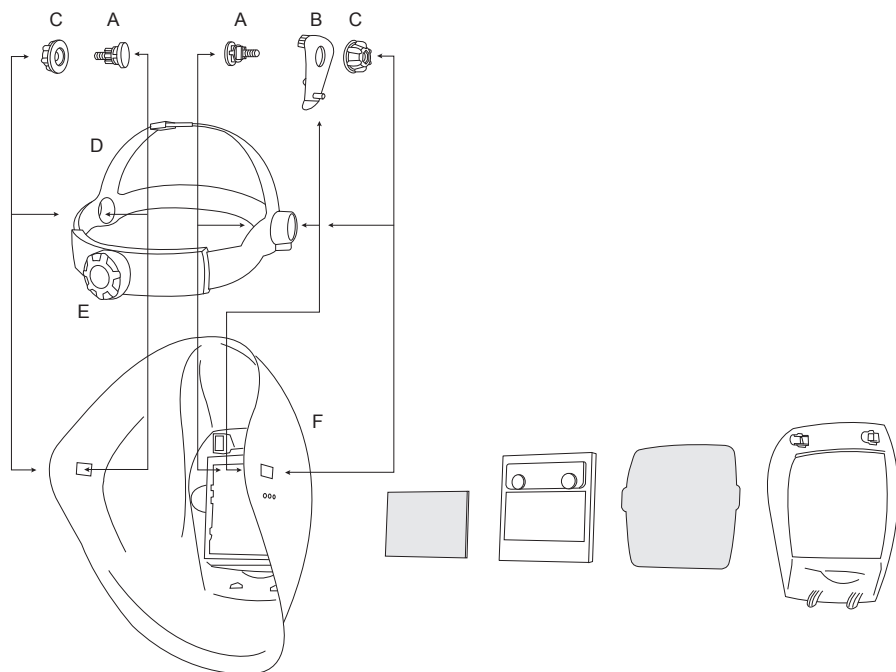

Figure 1
1. Insert screws (A) through the openings in the headgear (D).
2. Insert the headgear (D) into the helmet shell (F) as shown in figure 1 and push the screws (A) through the rectangular openings in the helmet shell.
3. Put the tilt adjustment (B) on the right side between the screw (A) and helmet shell (F). Make sure that a small pin is fixed in one of the three holes in the helmet shell. Choose the right hole for your maximum comfort.
4. Tighten the nuts (C) on the screws (A). Before adequately tightening them, place the headgear at the most comfortable distance from the filter opening by adjusting the position of headgear within the two rectangular holes in the helmet shell.
5. The headgear size (D) can be adjusted by turning the rear wheel (E) in order to fit any head size. Press the wheel and hold it position while turning, release the wheel when reaching the position of maximum comfort, so that it will lock in the required position.